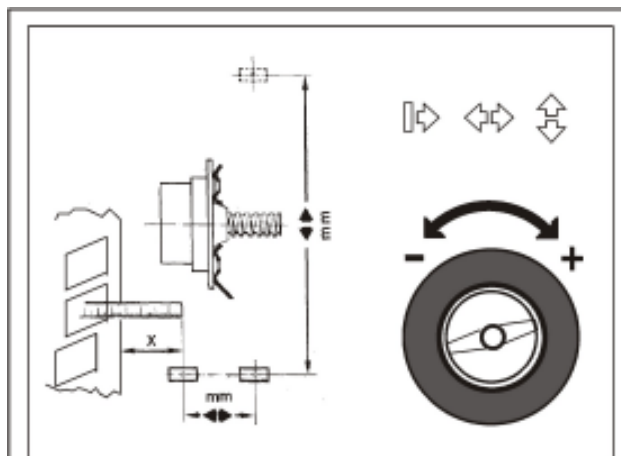

Fig. 43
- Measure the distance and the actual correction dimensions (centre of gravity of balance weight to be fitted) directly on the wheel using a measuring tape (Fig. 43).